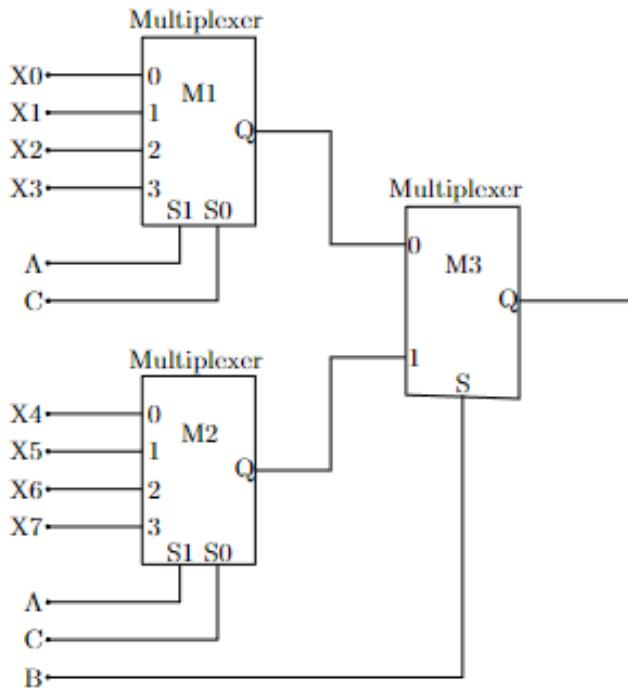

Fig. 4.27: Digital Circuit
52. A Boolean digital circuit is composed using two 4-input multiplexers  $M1$  and  $M2$  and one 2-input multiplexer  $M3$  as shown in the Fig. 4.27.  $X_0-X_7$  are the inputs of the multiplexers  $M1$  and  $M2$  and could be connected to either 0 or 1. The select lines of the multiplexers are connected to Boolean variables  $A$ ,  $B$  and  $C$  as shown. Which one of the following set of values of  $(X_0, X_1, X_2, X_3, X_4, X_5, X_6, X_7)$  will realise the Boolean function  $\overline{A} + \overline{AC} + A\overline{BC}$ ?